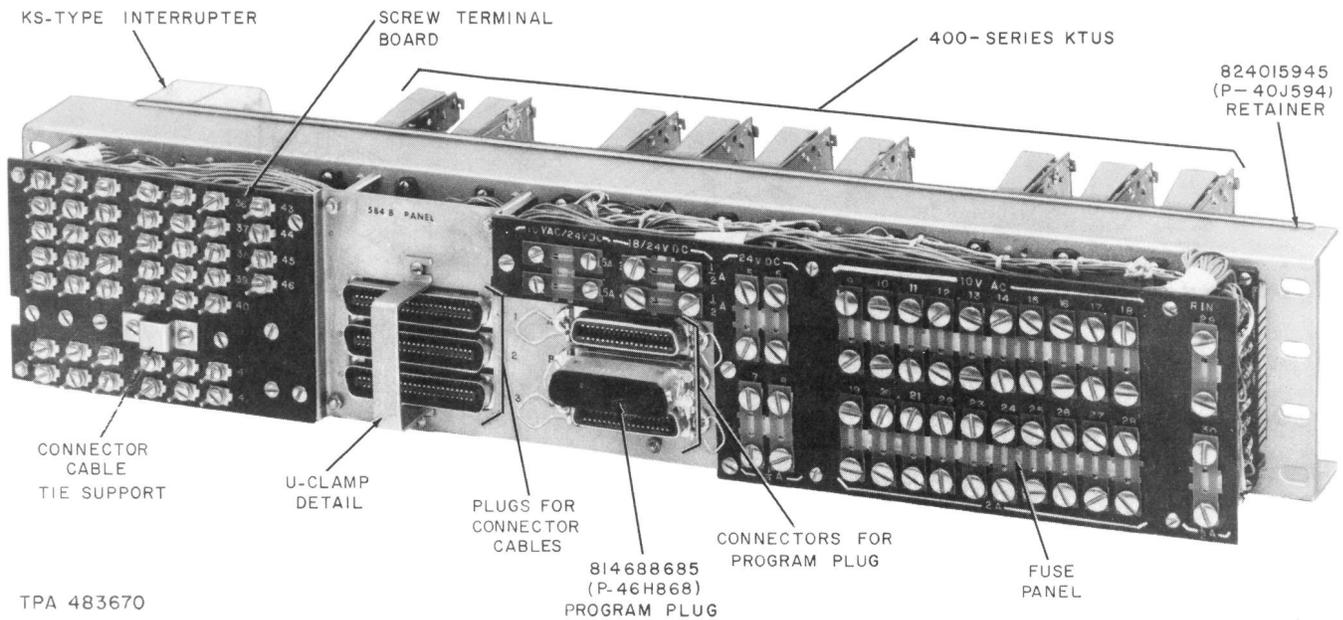
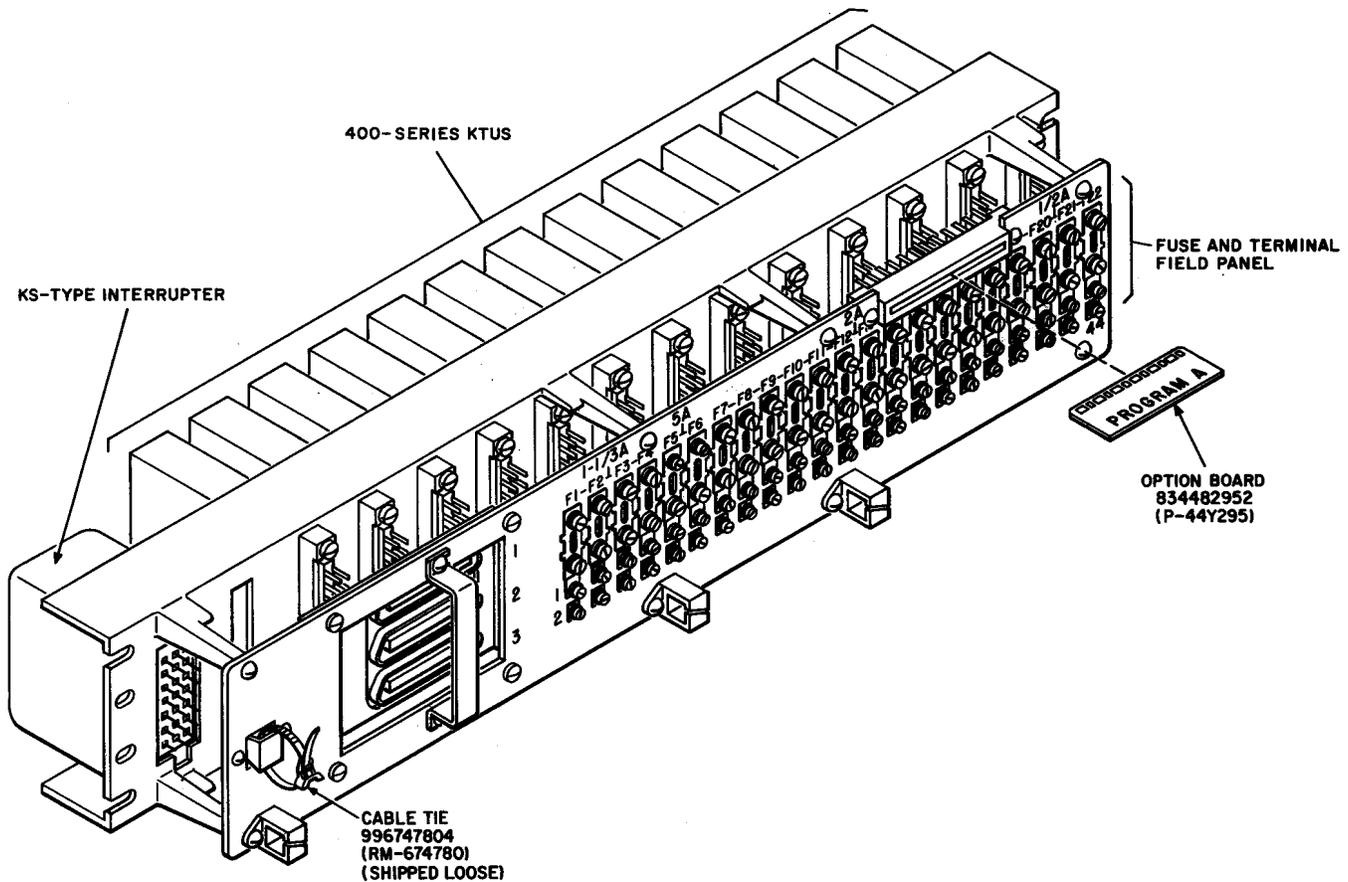

Fig. 1—584B (MD) Panel, Rear View
Fig. 2—584C Panel, Rear View
* Fuse 6 used when 584A (MD) panel is modified to accept 412A KTU.
B. 584B (MD) and 584C Panels
2.09 These panels (Fig. 1 and 2) are similar in capacity and function to the 584A (MD) panel. The 400-series KTUs and the KS interrupter must be ordered separately.
2.11 All line and station wiring is factory-wired from the connectors to three 50-contact KS-type plugs numbered 1, 2, and 3 (Fig. 1 and 2) on the rear of the panel; this permits use of A-type connector cables for line and station terminations.
2.14 The 584C panel features a combined fuse panel and screw terminal field while the 584B panel has a separate fuse panel and screw terminal field (Fig. 1). The panels are equipped with 24-type fuses grouped according to potential and rating.
2.18 The three 34-contact connectors on the 584B panel lettered A, B, and C (Fig. 1) serve as receptacles for the factory-wired lamp fusing and programming options. One 18-contact connector, J15 (Fig. 2), is used for the same purpose in the 584C panel. These permit distribution and fusing of lamp circuits, either within or external to the panel. One 814688685 (P-46H868) program option plug is furnished with each 584B panel, and one combined 834482952 (P-44Y295) Program A/Program C option plug is furnished with each 584C panel.